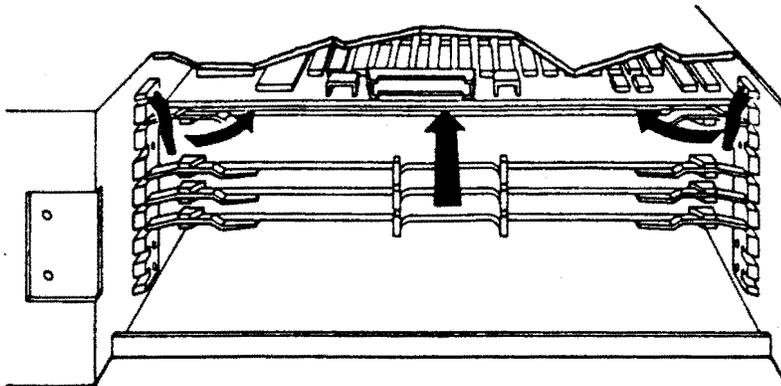

Figure 4-7: Module Replacement
4. Slide the module into the slot until firmly seated, and close the locking levers (Figure 4-7).